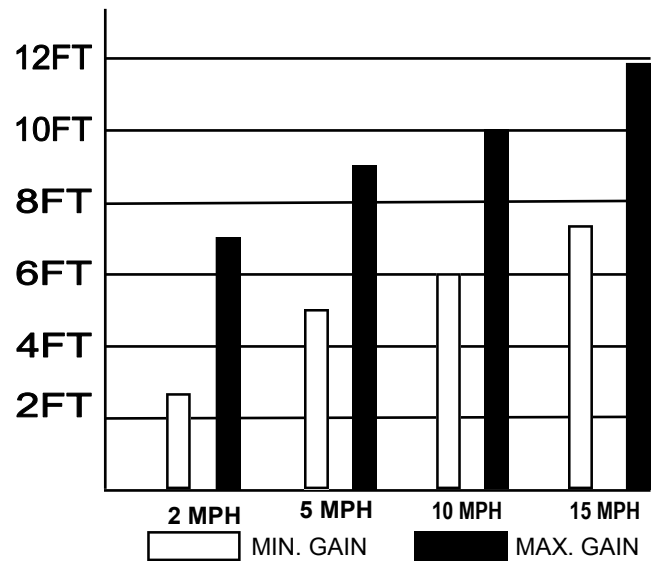

Figure 3 - Approximate Detection Radius
1. Determine the optimum placement by laying the sensor on the ground, turning the Signal Processor sensitivity ("GAIN") all the way down, and driving past the sensor at the probable vehicle speed and line of travel (See Figure 3). Gradually increase the sensitivity and/or adjust the sensor location for desired results. Keep the sensitivity as low as possible to avoid nuisance tripping. Bury the sensor about 6 inches (15cm) deep, parallel to the line of travel of the vehicle.
3. Place the sensor(s) on the ground in the desired location. Be sure the sensor is not allowed to roll or move during the vehicle tests; slight movement of the sensor may cause false trips. Figure 3 shows the approximate coverage pattern for a single sensor.